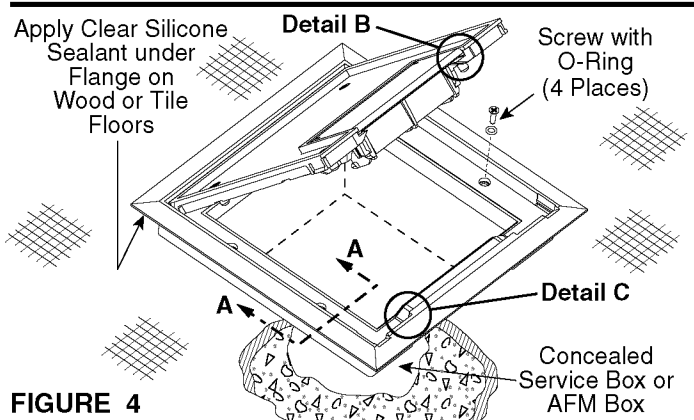

FIGURE 4
- 4) Align mounting holes and place CST on Concealed Service Floor Box. **Sealing Carpet flange:** On wood or tile floors, apply clear silicone sealant (not included) to underside of Carpet Flange to block water entry (see Figure 4).
- 6) Place O-Ring on Flat Head Screws up against the bottom of the head (see Figure 4).
- 7) Insert Screws complete with O-Rings through CST into threaded holes in metal Floor Box. Use the 1-inch long screws for finished trim floor thickness of 1/4" or thinner. Use the 1-1/2 -inch long screws for finished trim floors over 1/4" thick. Turn screws until heads and O-Rings make contact with the CST Lid. Complete the process with 1-1/2 turns of the screw (see Figure 4).